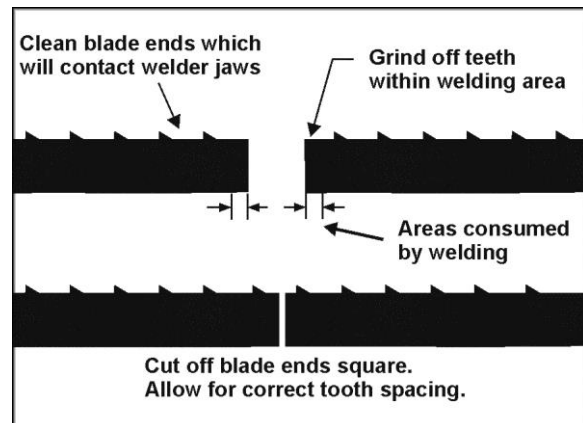

Figure 16
- Position the blade so that the cut is made at a place that allows for uniform spacing of the teeth. See Figure 16.
In fine pitched blades, one or more of the teeth on each side of the cut may need to be removed by grinding so that the weld area of the blade is uniform and the teeth will be uniformly spaced. See Figure 16.